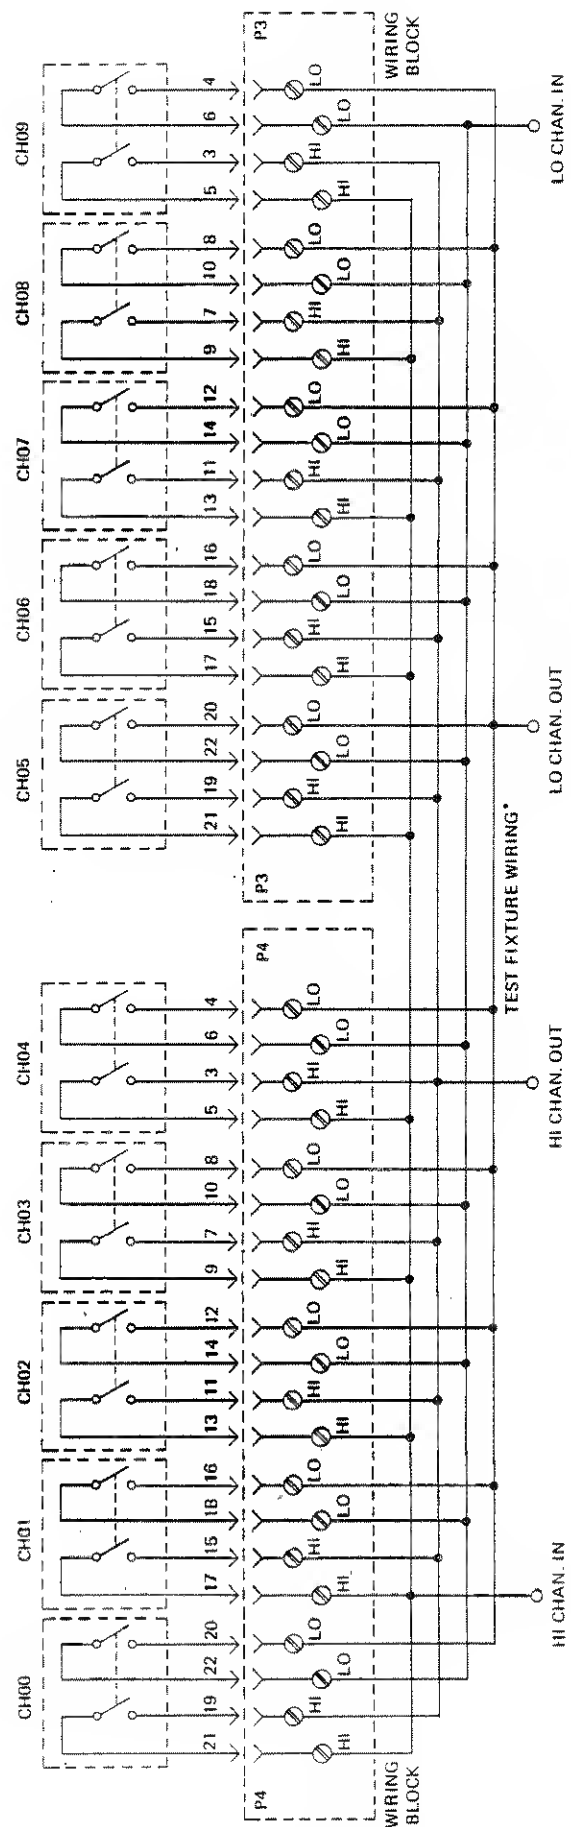

Figure 4.3 - 1250-12 Test Configuration
4.4.8.2.1 The 1250-12 Relay Actuator module contains a 10-channel array of double-pole single-throw (DPST) relays. The required test fixture (see Figure 4.3) connects all high inputs together, all low inputs together, all high outputs together, and all low outputs together. By connecting an ohmmeter between the connected inputs and corresponding connected outputs, the module is tested by successively closing each channel while monitoring the ohmmeter for an indication of relay closure.